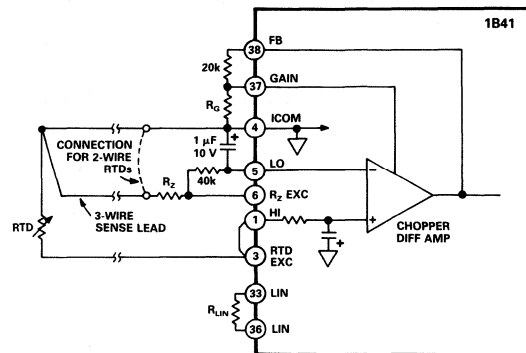

Figure 1. 1B41 Basic Hookup
1All specifications use the test circuit of Figure 1.
**Range Setting:** The gain of the 1B41 is controlled on the input side by a pair of user provided resistors (see Figure 1). A feedback resistor of 20 k $\Omega$   $\pm$  1% is required between the feedback pin (Pin 38) and the gain pin (Pin 37). The gain setting resistor is connected between the gain pin (Pin 37) and input side common (Pin 4).
For 2-wire RTDs, ICOM (Pin 4) can be connected as shown in Figure 1. This does not compensate for lead wire resistance.